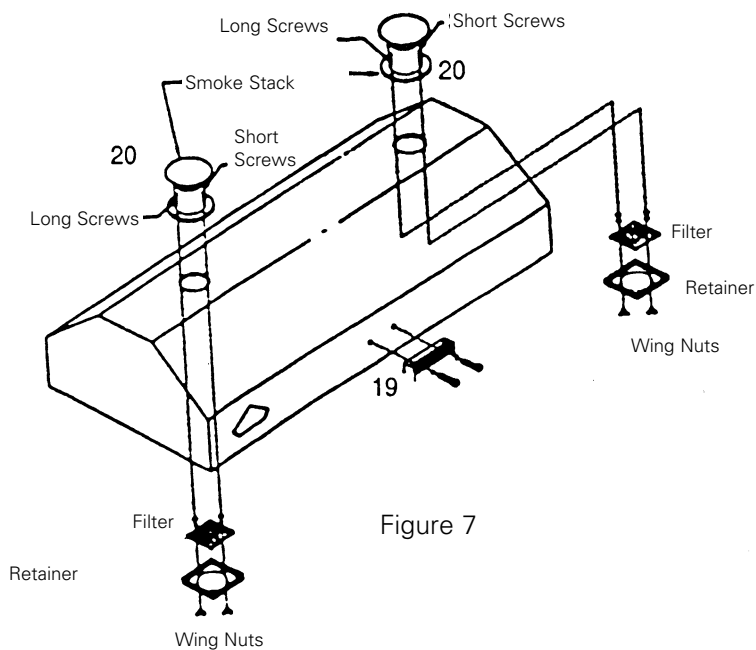

Figure 7
7. Refer to Figure 7. Select the Grill Top Handle (part 19) and attach it to the Grill Top as shown with two 1/4-20 bolts and washers in the threaded holes provided.
7a. Attach the Smokestacks to the Lid as per the instructions. Put the LONG no. 8 screws supplied in the Filter Hardware bag in the middle of the flat portion of the top and the short screws to the front and back as shown. Place nut and washer on each bolt and tighten securely. See Figure 7.